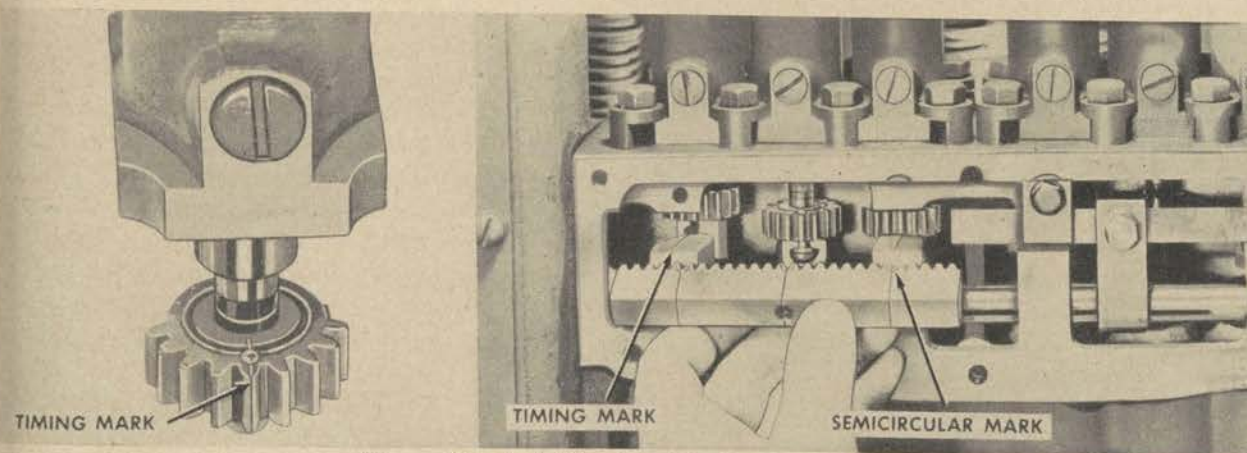

Figure 173. Installing fuel injection pump rack.
3. Rotate the gears on the pump plungers until the marked teeth (fig. 173) on each gear face outward. Aline the end pumps with the marks on the rack supports of the fuel pump housing.